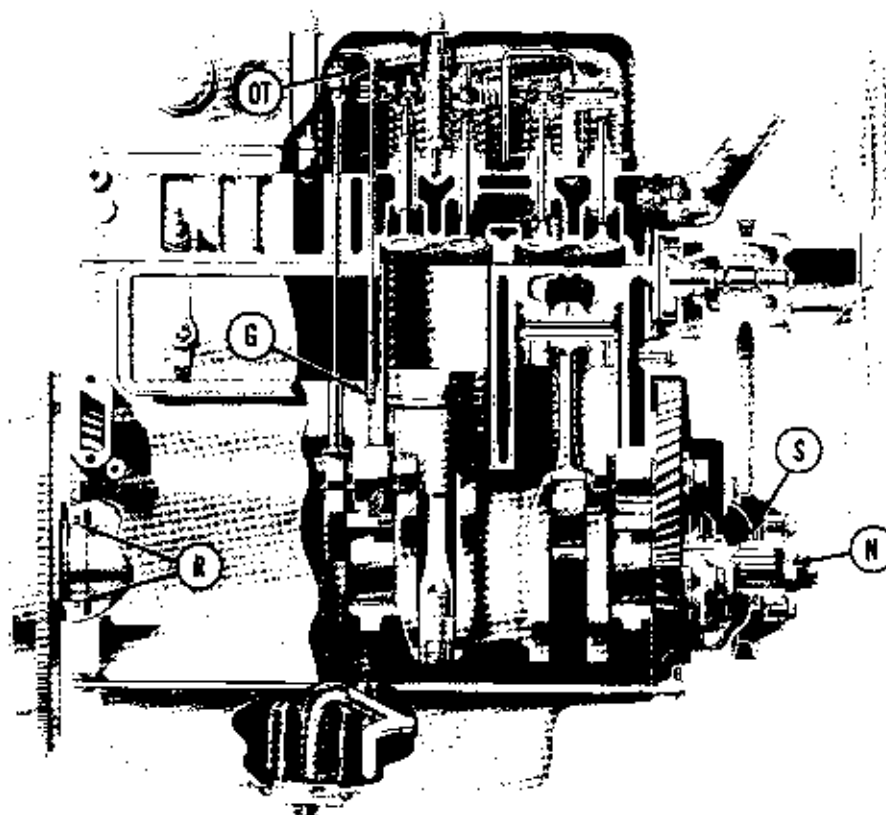
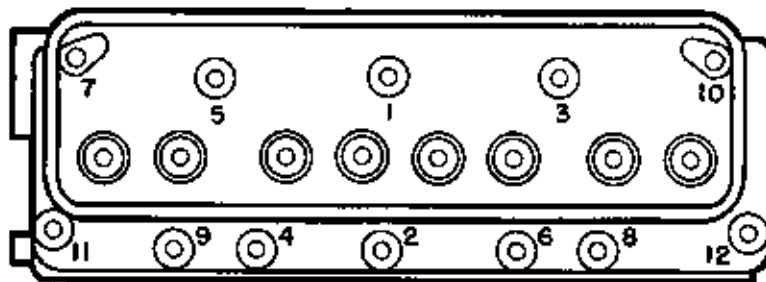
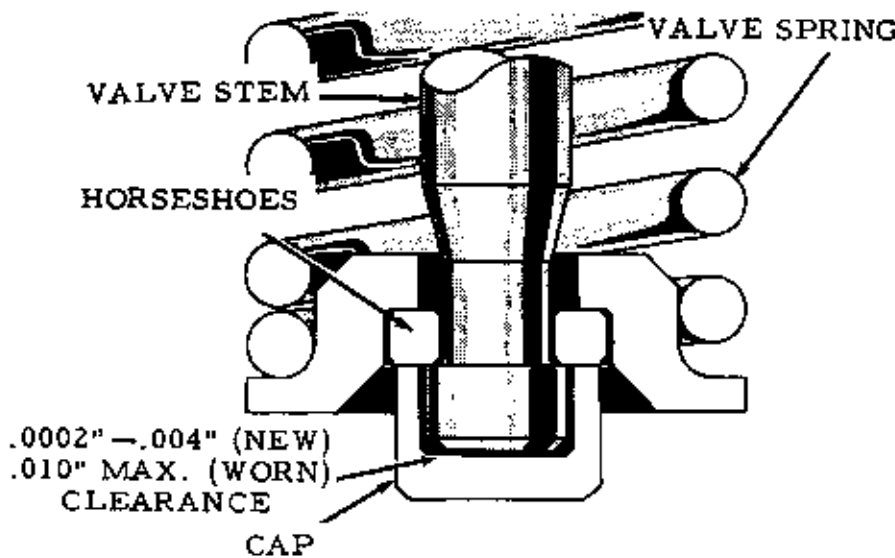

Fig. FO10—Section of NAA tractor engine showing oil tube grommet (G), front and rear oil seats (S) and (R). (N) is a ratchet nut.
Fig. FO11—Cylinder head hold down screws should be tightened in this numbered order.
Fig. FO12—Section of release type (Free Valve) exhaust valve rotator. Note required clearance between stem and cap.
disconnect the temperature gage sending unit (bulb) from cylinder head. Remove the rocker arm cover and extract the oil inlet and outlet lines. If grommet (G—Fig. FO10) is missing from the rear oil tube, remove the engine side plate, extract the grommet and install same over lower end of tube. Remove the cap screws retaining rocker shaft supports to head and remove the rocker arms and shaft assembly and push rods. Exhaust valve rotor caps (Fig. FO12) will be exposed at this time. Be sure to mark these caps so they can be reassembled
When reinstalling the head, tighten the retaining cap screws in the sequence shown in Fig. FO11 and to a torque of 65-70 Ft.-Lbs. Tighten the rocker arm support cap screws to a torque of 45-55 Ft.-Lbs. When installing the rocker arm oil lines, be sure that grommet (G—Fig. FO10) on lower end of the rear oil line is seated in the counterbore in cylinder block directly above the camshaft center bearing. Adjust the intake and exhaust tappet gap to 0.014-0.016 when engine is at operating temperature.
17. Exhaust valves are equipped with free type rotators shown in Fig. FO12 and the valves seat on renewable type seat inserts which are a shrink fit in the cylinder head. Intake valves seat directly in the cylinder head and are equipped with stem oil deflectors. Valves have a face angle of 44 degrees and a seat angle of 45 degrees. Desired valve seat width is 0.060-0.080 for the intake, 0.090-0.110 for the exhaust. Seats can be narrowed, using 30 and 60 degree stones. Total seat runout should not exceed 0.0015.
19. Refer to Fig. FO12. The free-valve type rotators will not function unless there is a measurable clearance or end gap between the end of the exhaust valve stem and the inside floor of the cap when the open end of the cap just contacts the spring keeper or horseshoe as shown. Desired end gap is 0.0002-0.004. Special micrometer gages are available for measuring this gap. Rotator cap gaps should be checked and if necessary adjusted each time the valves are reset.
21. To remove the rocker arms, it is recommended that fuel tank be removed. Remove the rocker arm cover and extract the oil inlet and outlet lines. If grommet (G—Fig. FO10) is missing from the rear oil tube, remove the engine side plate, extract the grommet and install same over lower end of tube. Remove the cap screws retaining the rocker shaft supports to head and remove the rocker arms and shaft assembly. Push rods can now be removed.
The crankshaft front oil seal (S—Fig. FO10) can be renewed at this time.